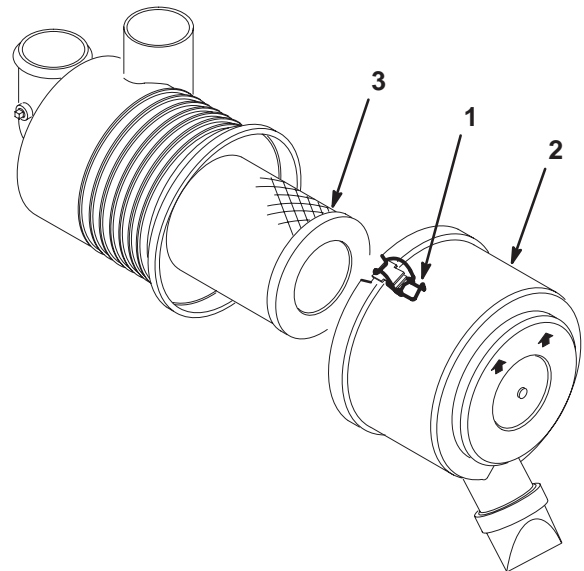

Figure 48
1. Release the latches securing the air cleaner cover to the air cleaner body (Fig. 48). Separate the cover from the body. Clean the inside of the air cleaner cover.
2. Gently slide the filter out of the air cleaner body (Fig. 48) to reduce the amount of dust dislodged. Avoid knocking the filter against the air cleaner body.